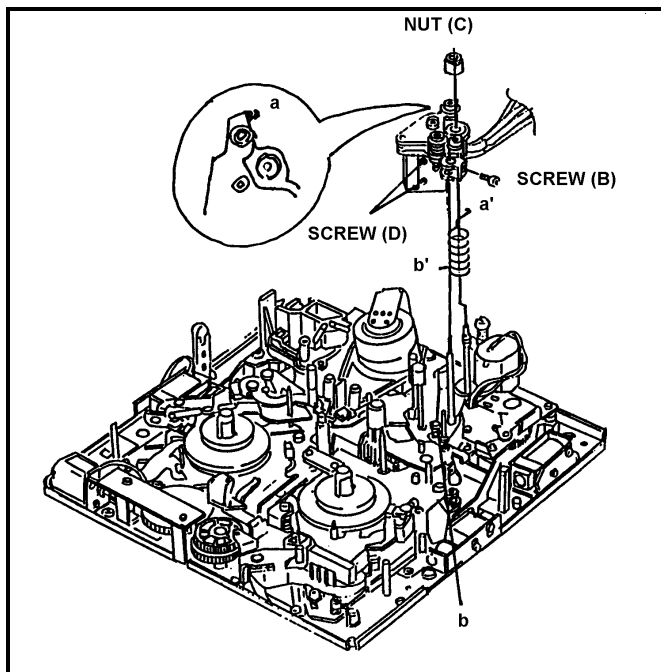

Fig. 6-2-1
3. Remove the **2 screws (A)**. and disconnect the **2 connectors P1** on the A/C Head I/F P.C.Board and **P30** on the Mech I/F P.C.Board, and then remove the A/C Head from the A/C Head Plate.
4. Remove **2 screws (D)** to remove the Shield Cover as shown in Figure 6-2-1.